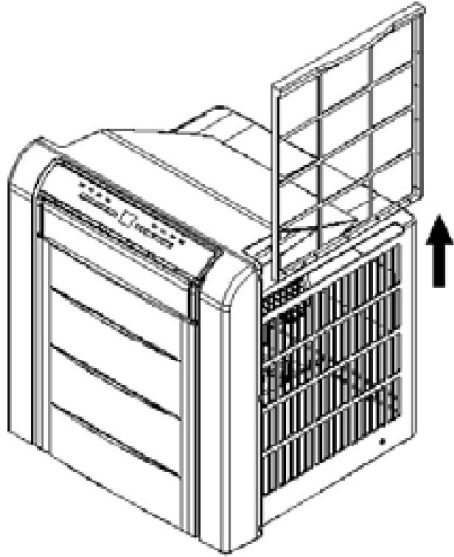

Fig. 7
- The air filters should be cleaned regularly by rinsing out under running water. Pull out the air filters as shown in Fig. 7.